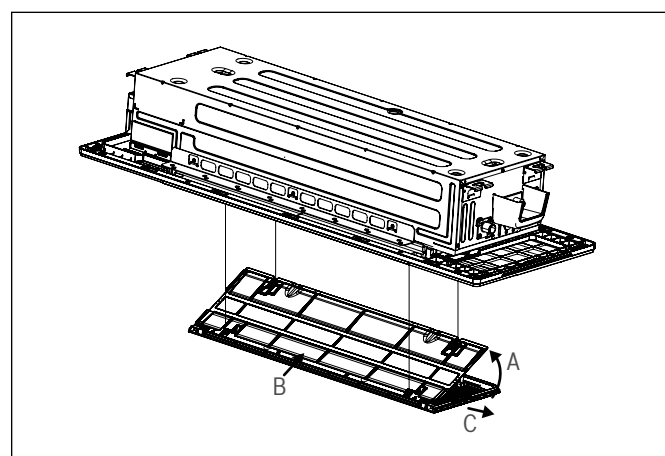

Figure 5
3. Hold the upper edge of the filter with both hands. Gently turn and lift until the upper edge is free from the wire rope (Fig. 5, A).
4. Lift the filter and move it forward slightly until the filter is separated from the 4 wire ropes (Fig 5, B).
5. Move the filter to the right until it is separated from the air grille, and then the filter can be taken out (Fig.5, C).